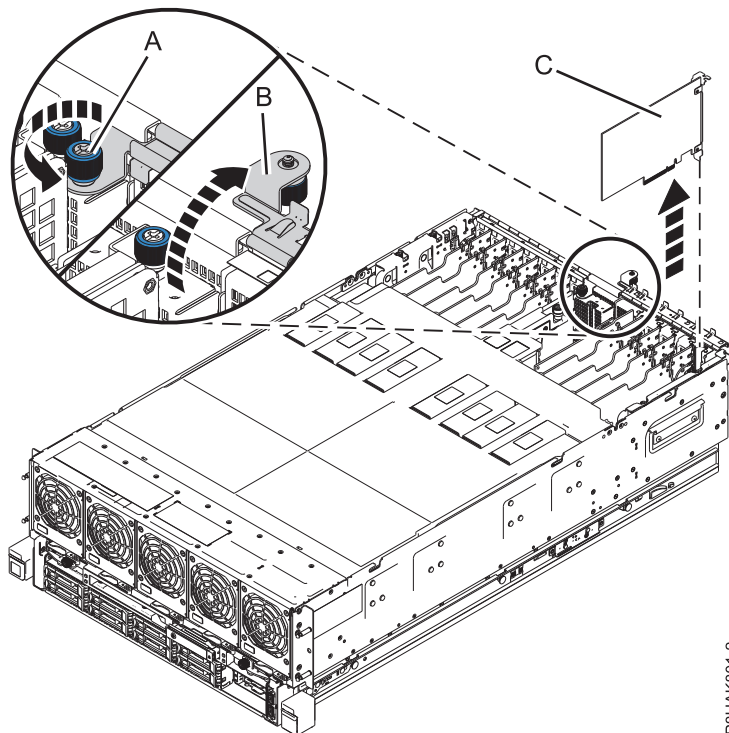

Figure 26. Removing a PCIe adapter from the 8408-44E or 8408-E8E system
- a. Unscrew the I/O retention bracket captive thumbscrew until fully loose. See **(A)** in Figure 26.
- b. Open the I/O retention bracket by rotating it up and away from the system. See **(B)** in Figure 26.
- c. Carefully grasp the adapter **(C)** by its top edge or tailstock, and remove adapter from the slot, as shown in Figure 26.